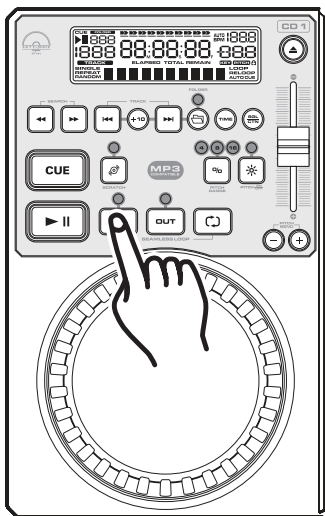

Figure 14
A cue point is the exact point playback will begin when the *PLAY/PAUSE* button (11) is pressed. You may set your cue points anywhere on a disc or in a track. There are three (3) ways to set and create a CUE point as detailed in figures 14, 15, and 16.